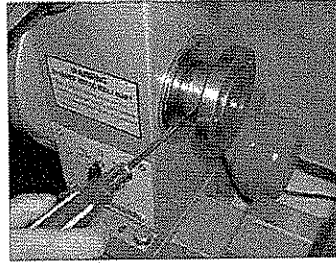

Fig. 26
- 7.11.1. With a screwdriver, take off the pushing screw on the flange, and then, unscrew the flange as shown in Fig. 26.